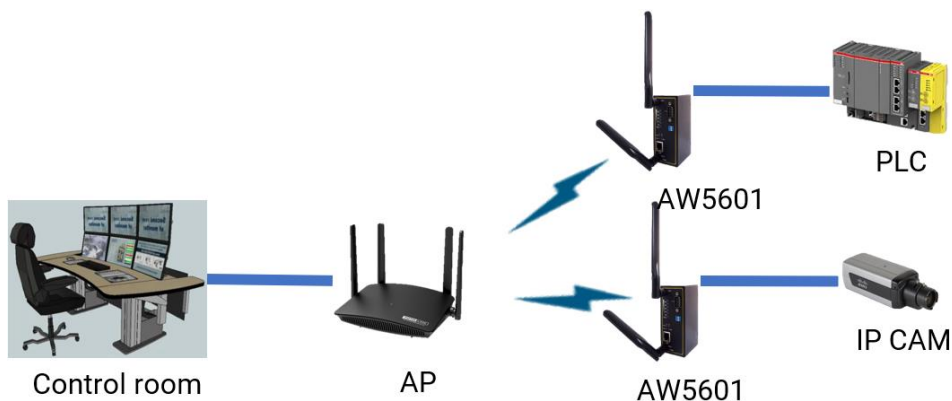

Figure 1.1 An Application of Industrial Wireless Access Point in WLAN
Figure 1.1 shows another example where the AW5601 operates in AP client mode and associates with another WLAN AP called AP1. In this example, the personal computer (PC) and the IP camera connected to Atop's industrial Managed Ethernet Switch (e.g., EH/EHG/EMG/RHG Series) can be wirelessly connected to the control room on the other side of the network.